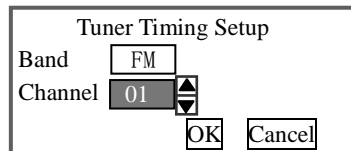

Fig. 8: Radio Timing Setup Interface
- ② If the Tuner sound source is selected for the timing point, press the option of “Sound Source” to access the interface of “Radio Timing Setup”, press the “◀” or “▶” key to move the cursor, press the “▲” or “▼” key to adjust the setup, and press the “OK” key for confirmation, as shown in figure 8: